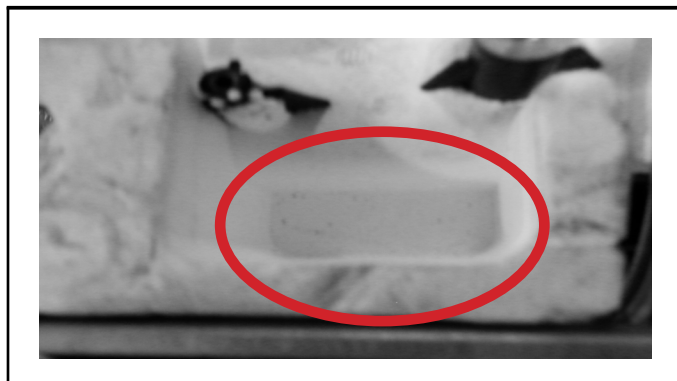

Figure 15. Typical Outside Air Supply Channel with Styrofoam Plug Intact
3. Make sure the outside air supply channel is clear of styrofoam and debris. It may be necessary to cut out or punch through a styrofoam plug. See Figures 15 and 16.